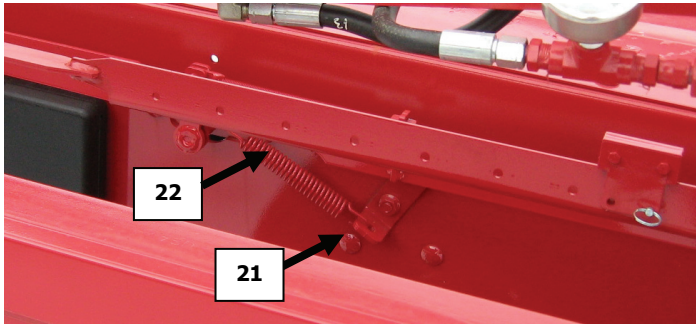

Figure 8.11 Automatic system spring
8.11 → The spring attachment must be at an angle of about 45 degrees relative to the table (Figure 8.11 #21).